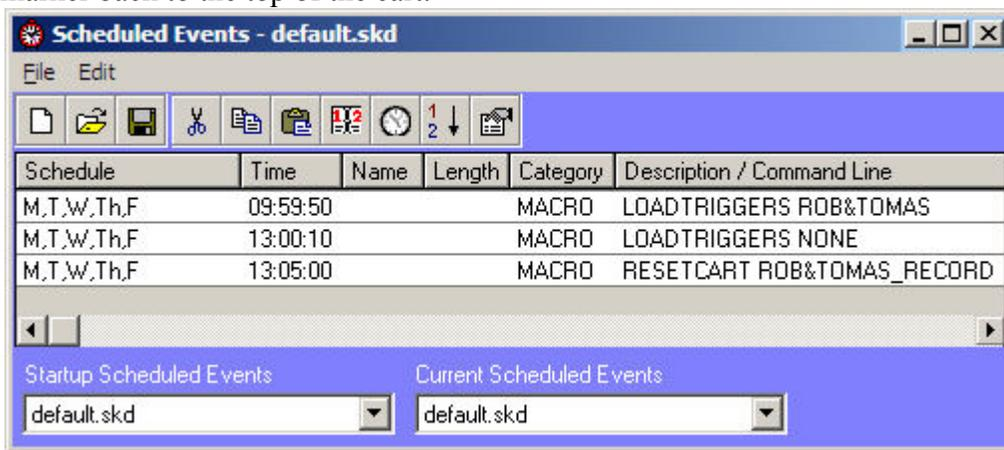

Figure 3: Scheduled Events set shown with the LOADTRIGGERS, LOADTRIGGERS NONE, and RESETCARD macros entered appropriately
1. The first step is to add our Cart to our Scheduled Events set. In the example shown in Figure 3, our satellite program runs from 10:00am until 1:00pm. The example trigger set is turned on just before 10:00am
2. Next, we need to turn off our triggers at the end of the satellite program. In the example shown in Figure 3, the Triggers are turned off just after 1:00pm.
Again, in our example shown in Figure 3, a few minutes after 1:00pm the RESETCARD macro is added to reset the next-to-play marker back to the top of the cart.